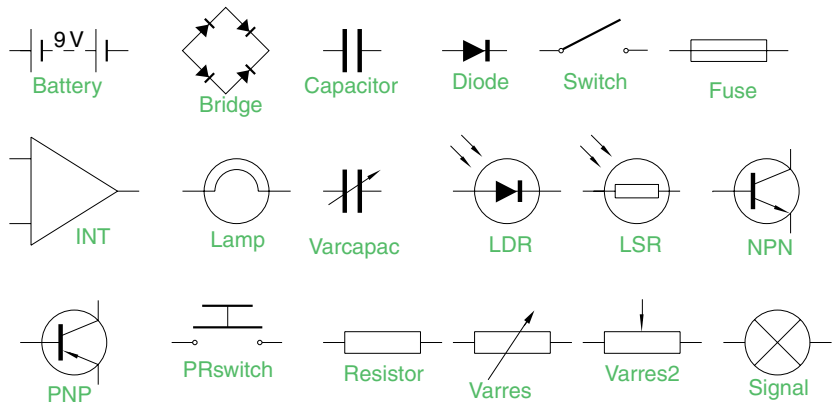

Fig. 9.17 Using the DesignCenter – a set of electric/electronic symbols
1. Construct the set of electric/electronic circuit symbols shown in Fig. 9.17 and make a series of blocks from each of the symbols.
2. Construct drawings of the electric/electronics symbols in Fig. 9.17 (page 157) and save them as blocks in a drawing file **electronics.dwg**.